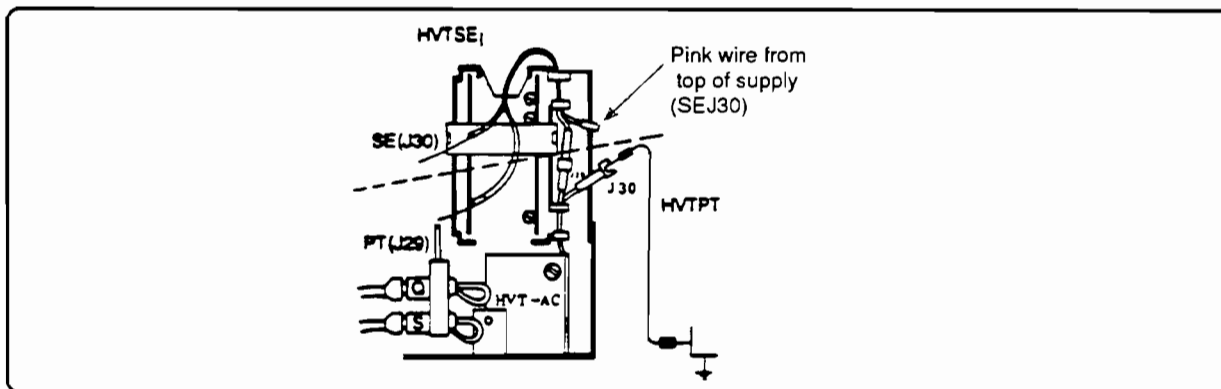

Figure 7-37. Grounding HVT SE J30
- a. On the HVT3 (PT/SE) Corona Supply: Disconnect the pink wire that comes from the top of the assembly (HVT SE section) at J30. Ground the lower section of the wire (from HVT AC) at the larger clear connector with a test lead with small alligator clips on both ends. **Do not use the Motor Drive PCA heat sink - it is not at ground potential.** See Figure 7-37.